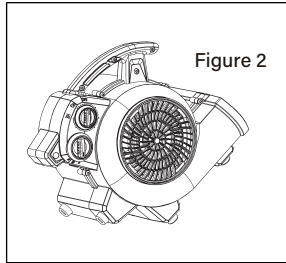

Figure 2
2. Use the angle position for applications such as drying plaster on walls or drying wet furniture. To use this position, tilt the unit backwards so it rests on the support (Figure2).